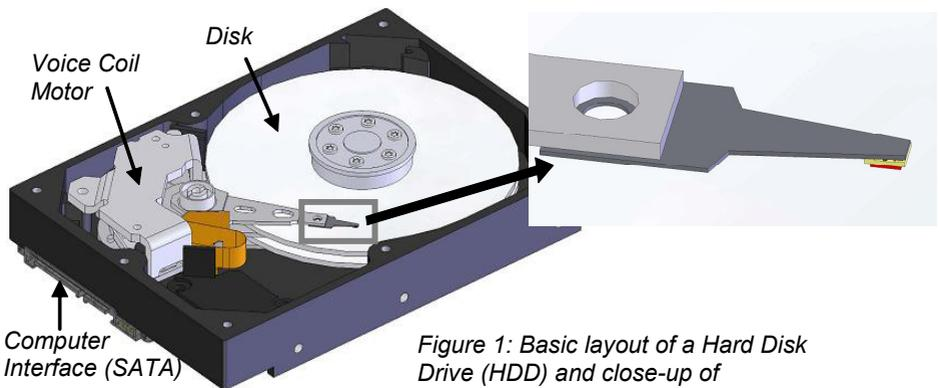

Figure 1: Basic layout of a Hard Disk Drive (HDD) and close-up of suspension & head.
In HDDs, the data is magnetically stored on rotating disks (figure 1). The data is read and written with a head which floats just above the disk. The head is connected to the actuator arm by means of a suspension. With a voice coil motor the arm can be rotated to position and to keep the head above the center of the desired track during read and write operations.
Fig. 1. Scanning electron image of a) a freestanding cantilever, b) tip of the SIP, c) SIP image of CD tracks and d) Scanning electron image of the capillaries cross section.
The reason we say “uncertainty” is because this value needs to be traceable to national and international standards. This means there are a set, agreed-upon, criteria and specifications for how you claim how good your measurement is. Ultimately, this means that while your digital read-out may have 20 digits, you’re not really getting 20 digits of “accuracy”. Ok, just so I don’t bore you to death with text, I’ll start the pretty picture section. To do these measurements, you need an interferometer, which is shown in Figure 1. In this figure, 2 slightly different laser beams are directed into the system. The gray dashed beam measure the sample and interferes with the solid gray reference beam. The black dashed beam measures a vacuum tube (VT) and interferes with the solid black beam. Measuring the vacuum tube helps you to get rid of the air-induced errors. By comparing the phase difference between the signal from Pdr and Pds (Fig. 1), you can determine how much the sample length is changing.
Figure 1: Schematic of the interferometer layout for measuring sample drift. This is a dual interferometer which measures the sample and the air fluctuations, reducing the effects from air turbulence